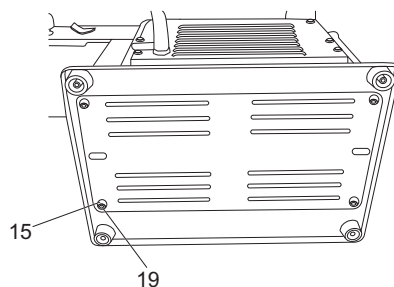

Fig. 5
- > Assemble another three screws in the same order. (Fig. 5)